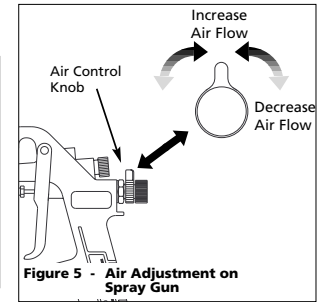

Figure 5 - Air Adjustment on Spray Gun
1. Adjust air pressure to the spray gun according to the recommendations supplied with the spray material. This air pressure usually falls between 40 - 60 PSI. Adjust air pressure with the trigger pulled and air control knob (if applicable) fully open. If reduced air pressure is desired for some areas of the spray job, use air control knob to reduce pressure as necessary (See Figure 5).
air pressure usually falls between 40 - 60 PSI. Adjust air pressure with the trigger pulled and air control knob (if applicable) fully open. If reduced air pressure is desired for some areas of the spray job, use air control knob to reduce pressure as necessary (See Figure 5).